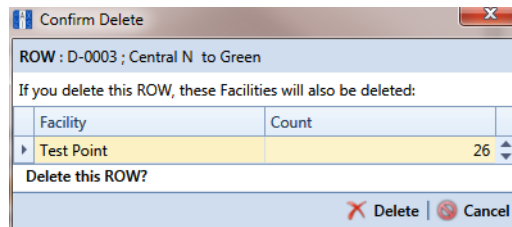

Figure 4-9. Confirm Delete
- 2 Click **Delete** to open the *Confirm Delete* dialog box (Figure 4-9, page 146). Or, right-click the selected pipeline in the hierarchy tree and select **Delete** in the shortcut menu to open the *Confirm Delete* dialog box.
NOTE: The *Confirm Delete* dialog box identifies the pipeline and number of associated facilities to be deleted in the *Count* column (Figure 4-9, page 146).